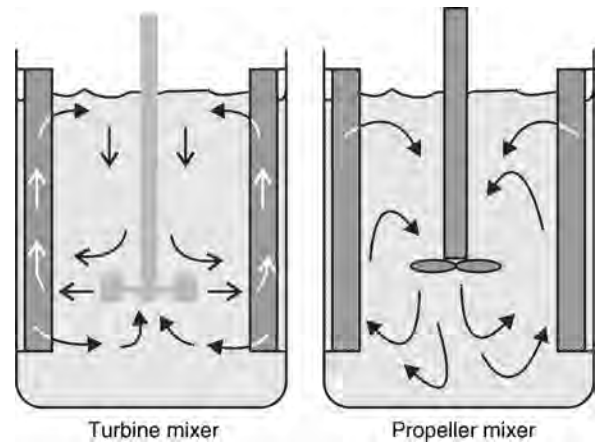

FIGURE 6.4 Turbine and propeller mixers.
- Figure 6.4 illustrates flow lines for turbine and propeller mixers.